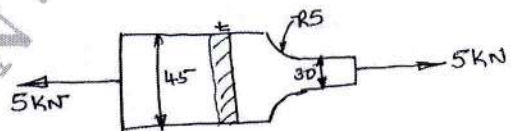

Fig. Q2 (b)
- b. A flat-plate subjected to a tensile force of 5 kN is shown in Fig. Q2 (b). The plate material is having a ultimate strength $\sigma_u = 200 \text{ MPa}$. Determine the thickness of plate, take factor of safety as 2.5. (06 Marks)